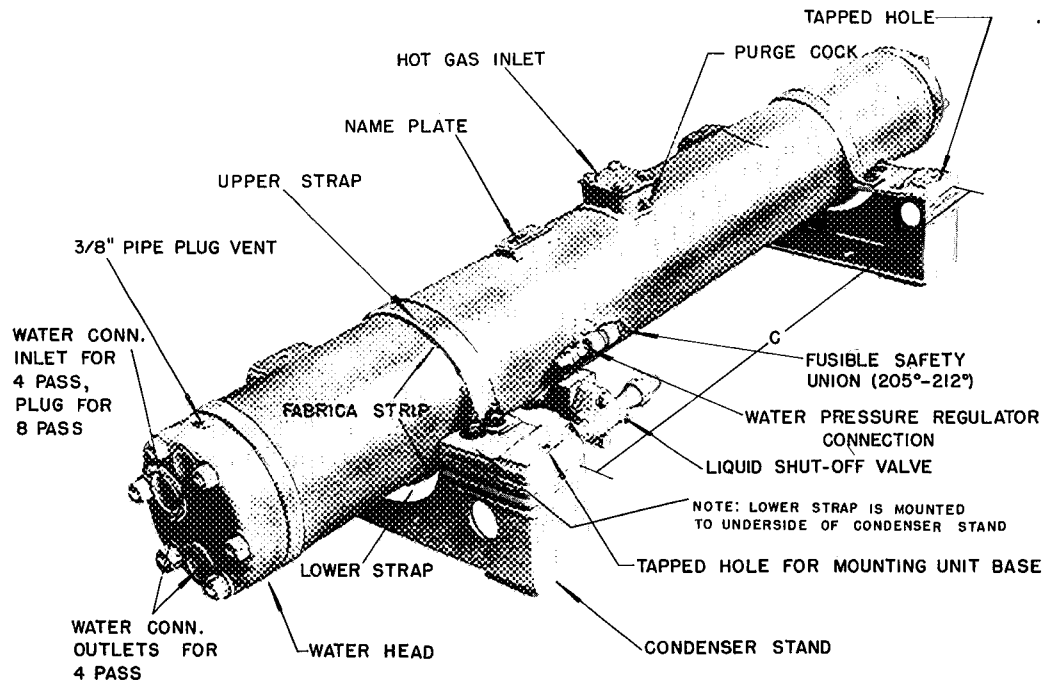

FIG. 18 — ASSEMBLED CONDENSER PACKAGE
(1) Set up the two cast-iron stands in their correct location. The distance "C" between the tapped holes on the top face of the stands should be equal to the distance between the holes in the lower flange of the compressor unit base. Fig. 18 illustrates condenser assembled to stands.
(2) The lower straps should be loosely bolted to the lower side of each condenser stand. Note that for some units the upper condenser strap is slightly deeper than the lower strap.
(3) Place the condenser on the stands with the front water head at the compressor end of the base. The hot gas inlet should face directly upward, and the condenser should overhang the stands by about the same distance at each end.
(4) Assemble the upper condenser straps loosely.
(5) Place the compressor unit on top of the condenser stands and bolt down using the cap-screws and lockwashers provided.
(6) Loosely connect the compressor discharge line and adjust the condenser so the discharge line flange is in line with the condenser inlet.
(7) Place the strips of fabrica provided between the lower support straps and the condenser.
(8) Tighten the lower support strap bolts enough to lift the condenser off the stands.
(9) Bolt the discharge line to the condenser using the gasket, cap screws and washers provided. Adjust the condenser as required to prevent distortion of the discharge line.
(10) Place fabrica strips between the condenser and the upper straps. Tighten the upper strap bolts to secure the condenser to the stands.